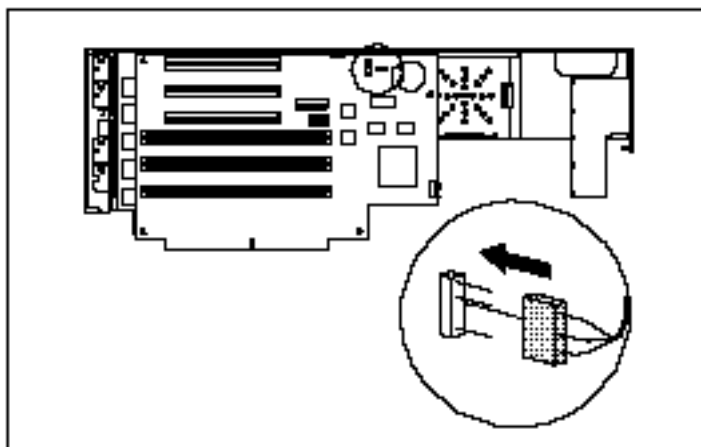

Figure A-2. Connecting the battery
2. Place the battery and the hook-and-loop fastener strip on the chassis floor, as shown in Figure A-2 above.